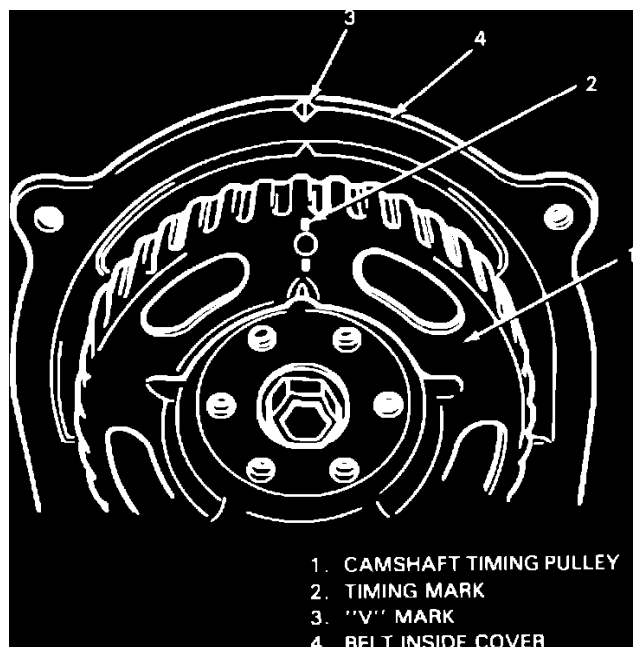

Fig. 11 Camshaft pulley alignment
3. Turn camshaft pulley clockwise and align timing mark on camshaft pulley with V mark on inside belt cover, **Fig. 11**.